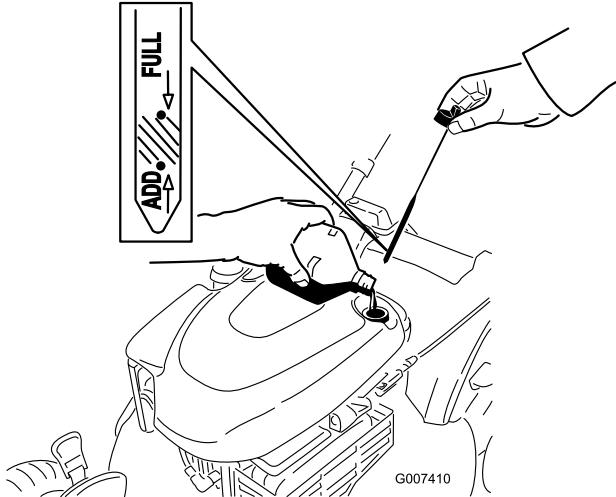

Figure 6
1. Remove the dipstick (Figure 6).
2. Slowly pour oil into the oil fill tube until the oil level reaches the **Full** line on the dipstick (Figure 6).